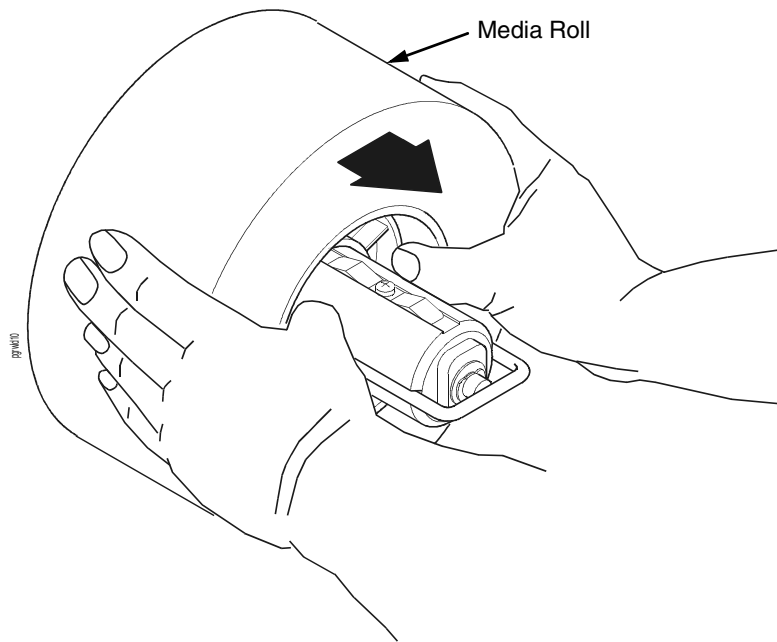

Figure 22. Removing the Media Roll
5. Remove the media roll from the rewinder as shown in Figure 22, and set the roll aside.